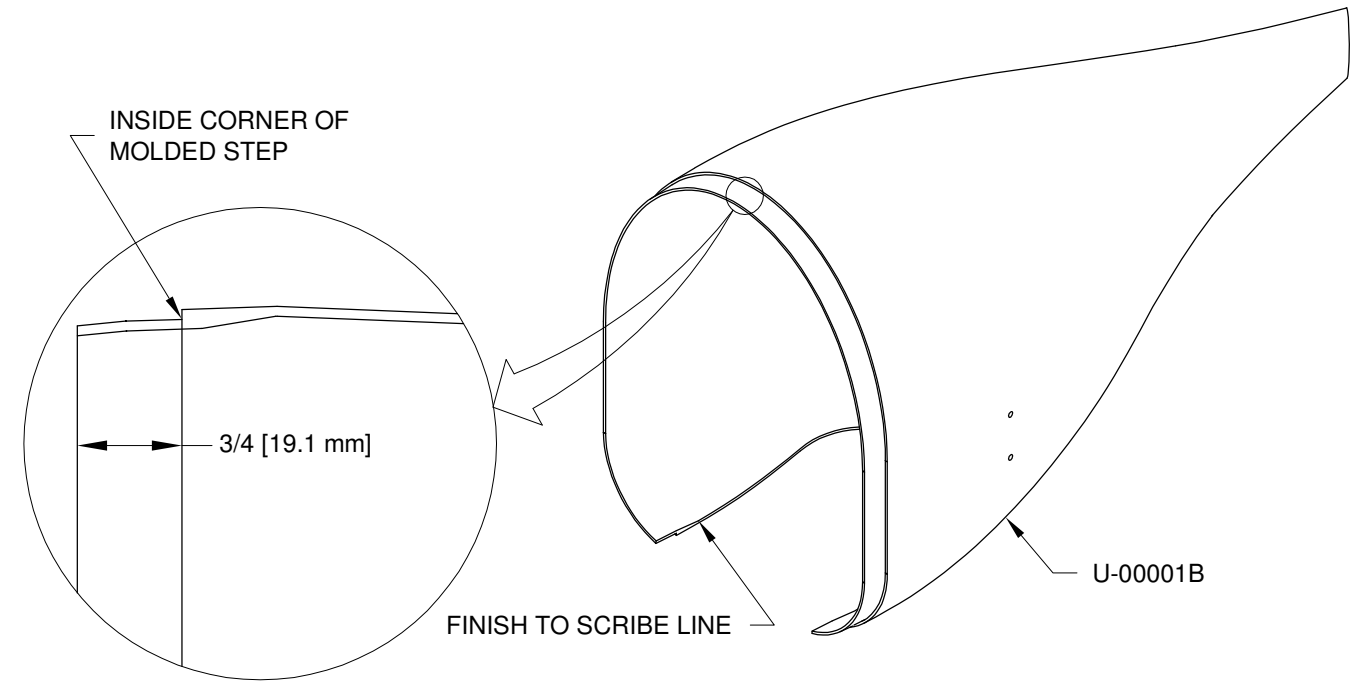

FIGURE 2: PREP REAR FAIRING
Step 3: Square up the inside corner of molded step in the U-00001B Wheel Fairing Aft as required to allow for a good fit of the fairing halves as shown in Figure 2. A coarse file works well.
Trim the wheel fairing aft flange to 3/4 inch [19.1 mm] from the molded step as shown in Figure 2.
Step 4: Trim the tire opening of the U-00001B Wheel Fairing Aft to 1/16 [1.6 mm] from the scribe line with hand shears. See Figure 2.